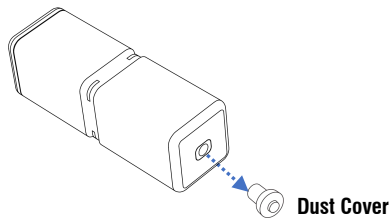

Figure 10A
- i. Remove Dust Cover. *(Please do not remove Dust Cover if Remote Sensor Probe not installed)* “Figure 10A”